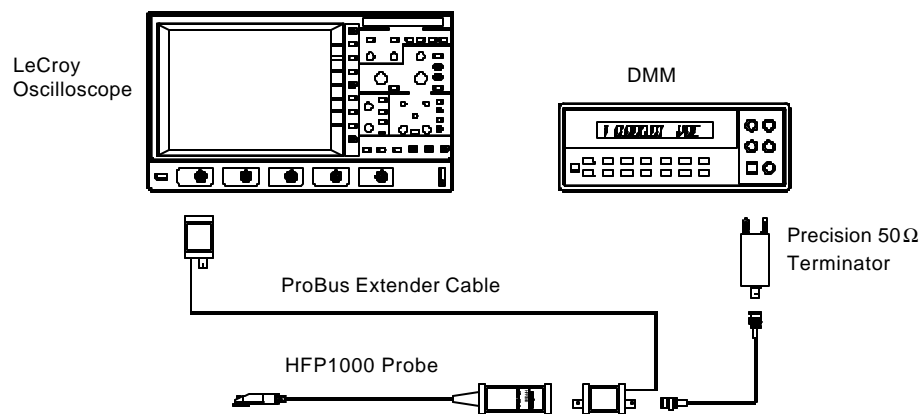

Figure 8-1 Output Zero Voltage Adjustment Setup
2. Connect the banana plugs of the precision 50 Ω terminator to the input of the DMM. Make sure the plug corresponding to the BNC shield (marked 'Ground') is connected to the **LO** or **COMMON** input of the DMM. Refer to figure 8-1 for setup information.